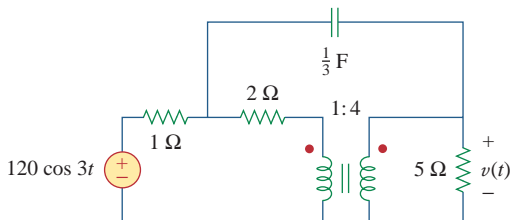

Figure 13.112
13.47 Find $v(t)$ for the circuit in Fig. 13.112.